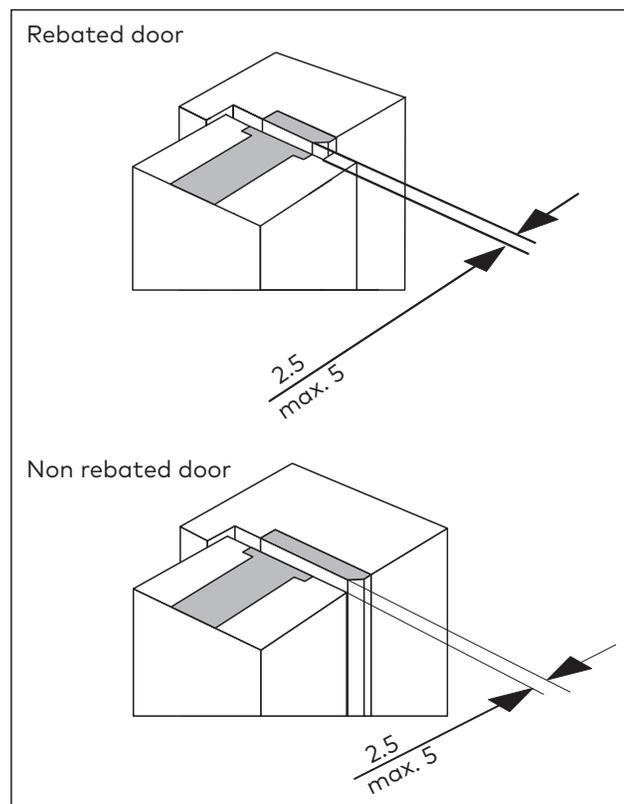

Fig. 32 Check the door gap
1. Measure the distance between forend and striking plate (Fig. 32). If necessary, adjust the door leaf or door frame.